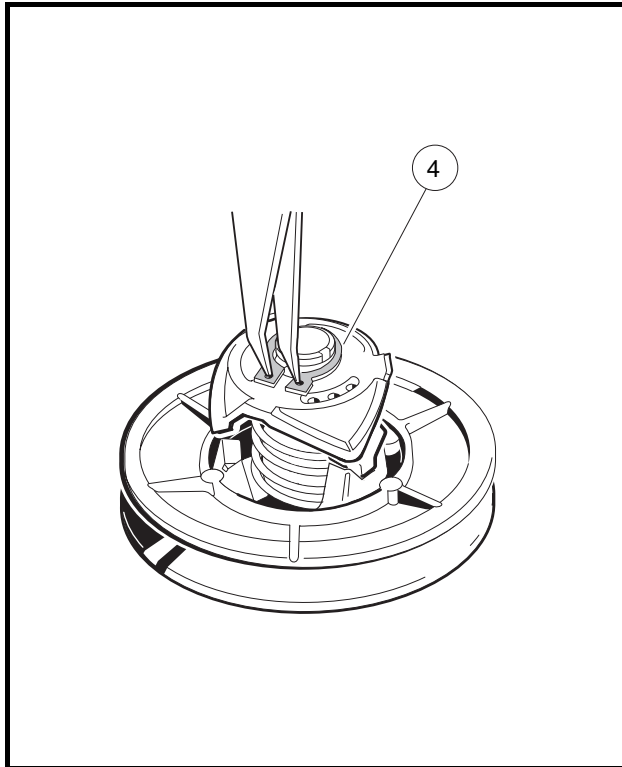

Figure 17-16 Remove Retaining Ring
1. Using external snap ring pliers, remove the retaining ring (4) (**Figure 17-16, Page 17-13**). **See following WARNING.**